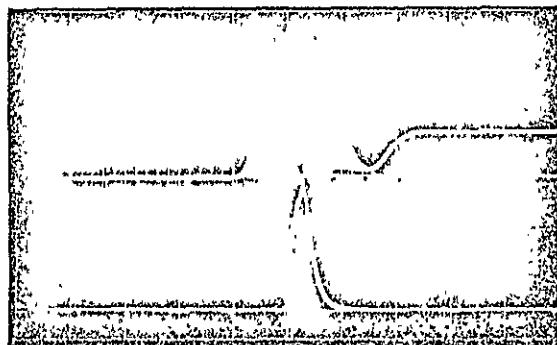

Figure 5-12. A2TJ1 V-Clamp (top)
5.3.1.3.2 Sample Pulse Timing (Internal) (refer to Figure 5-12)